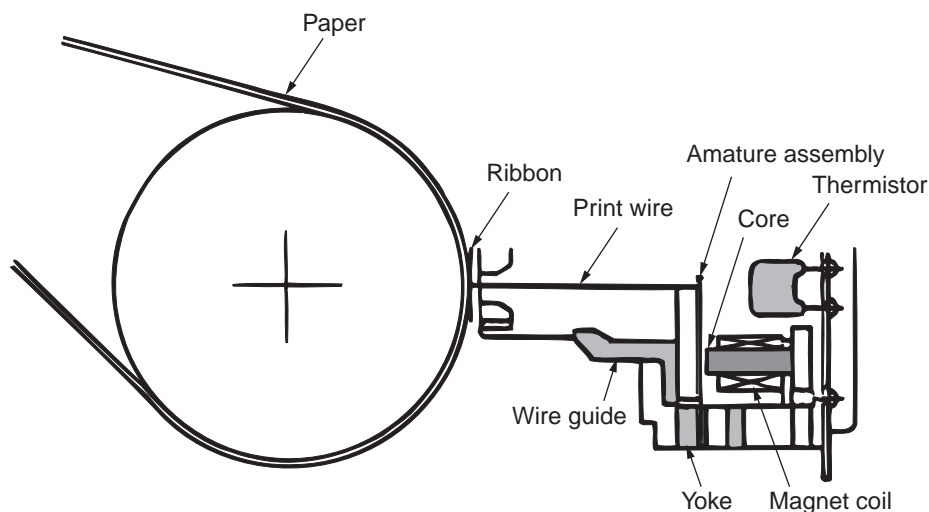

Figure 2
2.3.1 The Printhead Mechanism and Its Operation (See Figure 2)